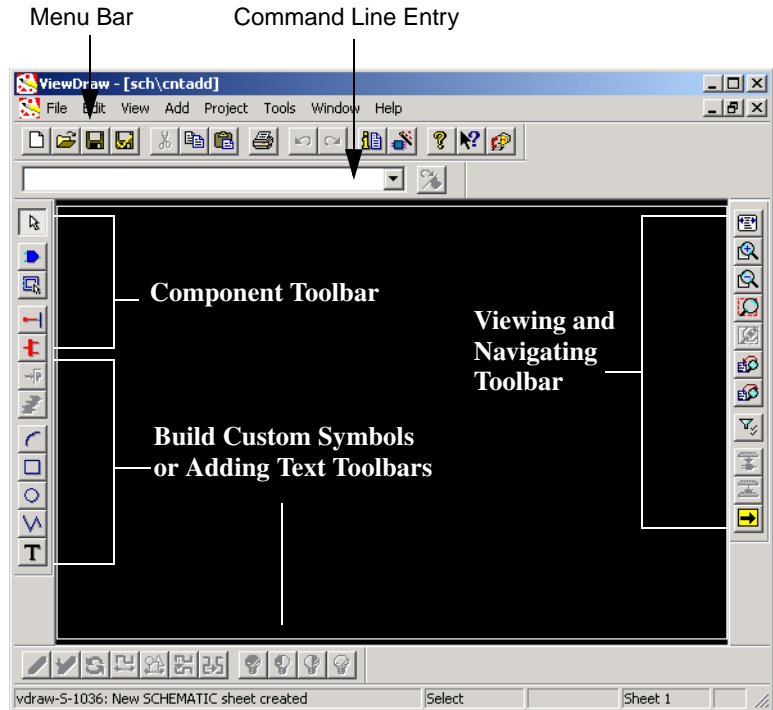

Figure 5-5. ViewDraw for Actel
3. Click **Schematic** and type a name for your schematic file in the Name field. Click **OK**. ViewDraw for Actel starts, as shown in Figure 5-5.